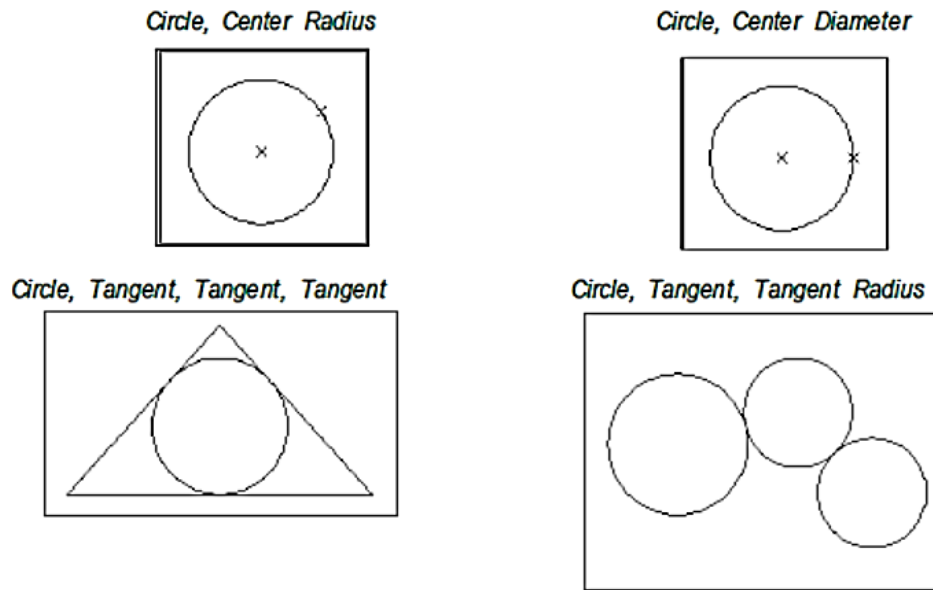

Figure 11. Circle Option.
- **TTT.** (Draw ⇒Circle⇒Tan Tan Tan). Figure 11 illustrate circle option [3,4,6].